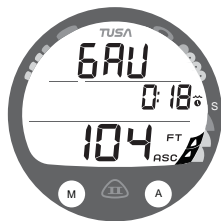

Fig. 78 - GAUG DIVE MAIN
**Gauge Dive Main**, information includes (Fig. 78) -